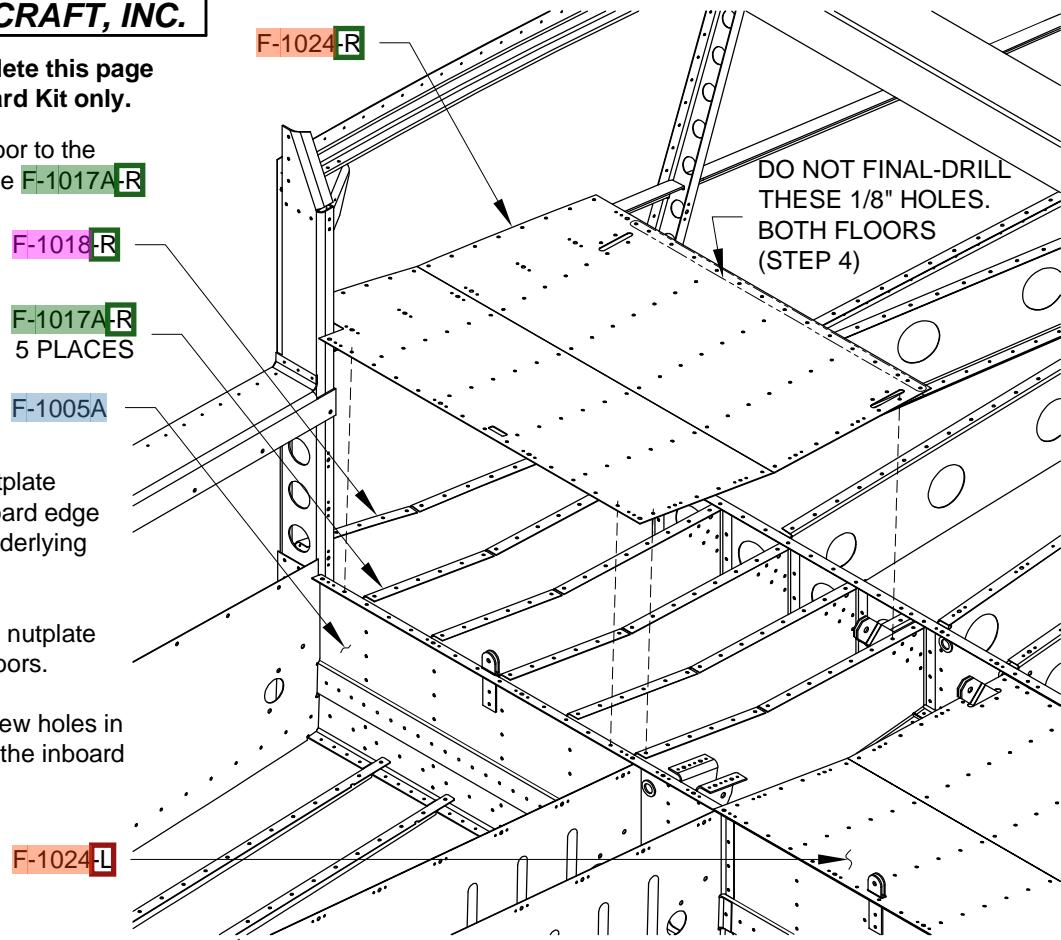

FIGURE 1: CLECOING THE SEAT FLOORS
Step 4: Except for the holes indicated in Figure 1, final-drill #30 all the 1/8" holes in both seat floors.